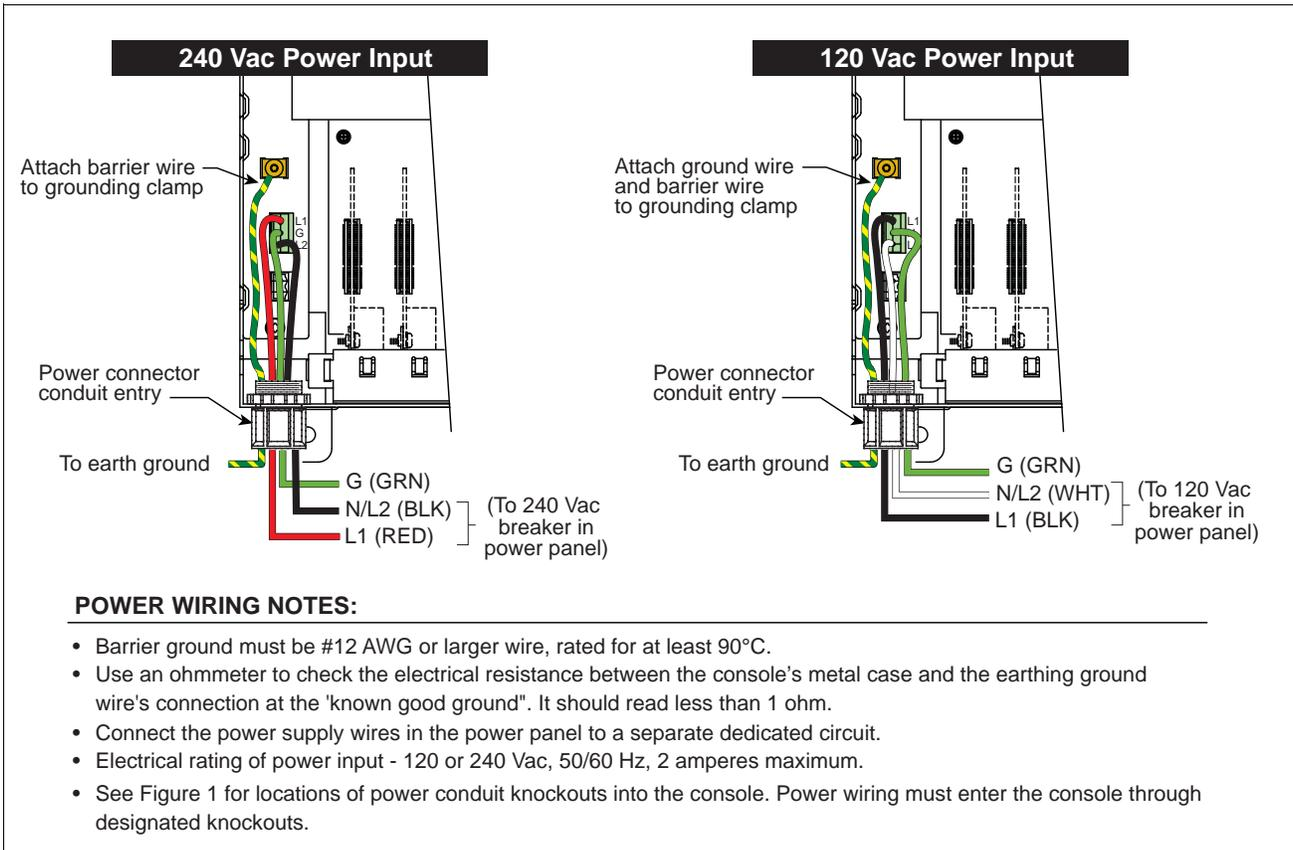

Figure 2. Wiring AC Power to the TLS-450 Console
3. Connect the input 120 or 240 Vac power wires as shown in Figure 2.